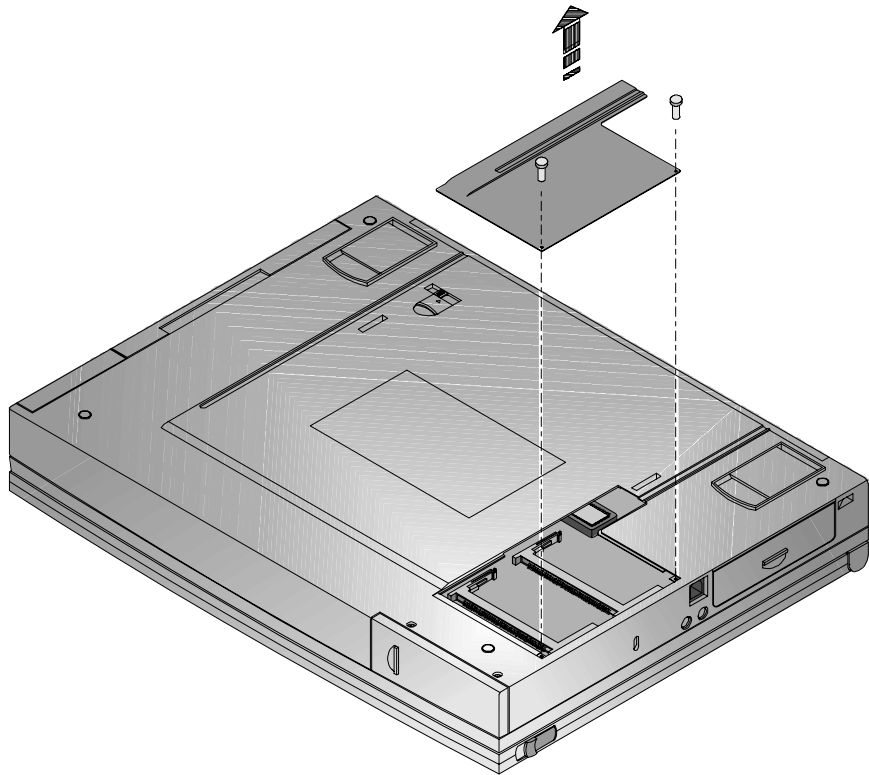
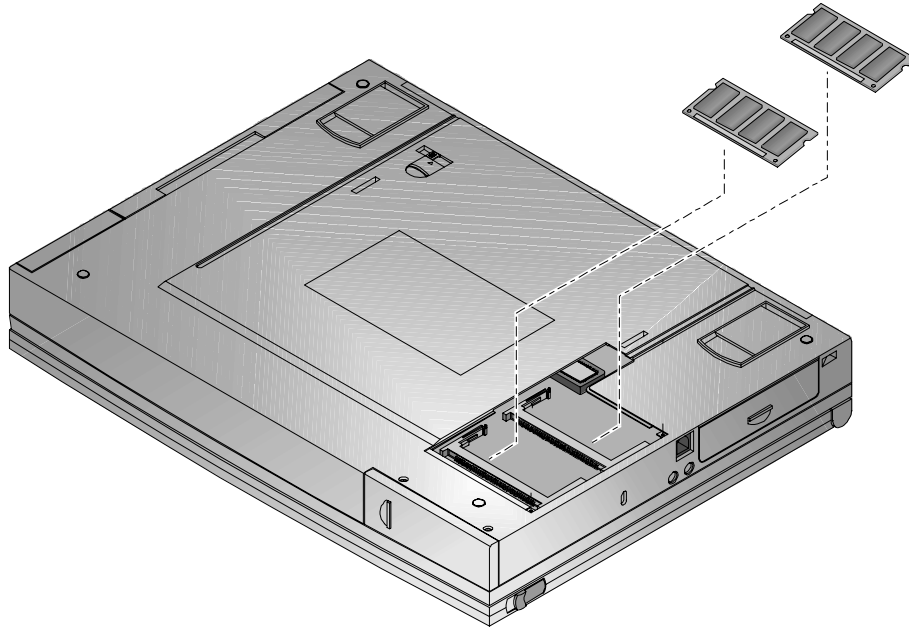

Figure 6-1: Removing Memory Door
Figure 6-2: Inserting DIMMs
You may find it helpful to refer to figure 6-1 and figure 6-2 while reading the following directions.
2. The memory door is located on the underside of the notebook. It is secured to the notebook by two Philips head screws. Remove the screws and the memory door to reveal the DIMM slots. (Figure 6-1)
3. Insert the DIMM into the memory slot at a 45° angle. (Figure 6-2)